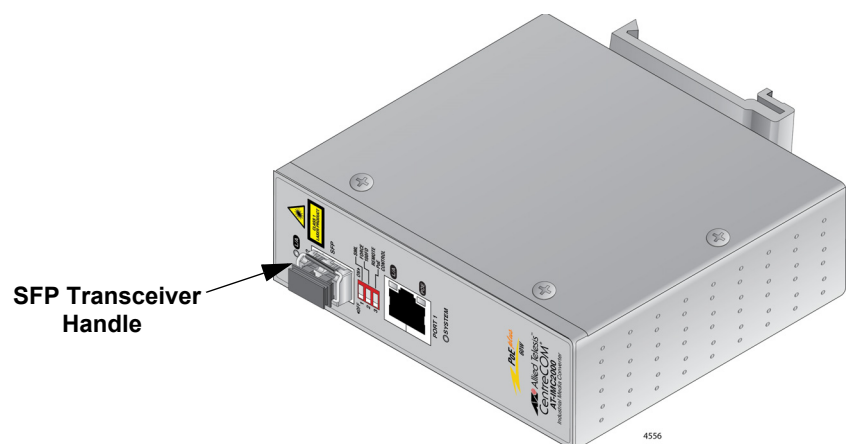

Figure 21. Positioning the SFP Handle in the Upright Position
- Verify that the handle on the transceiver is in the upright position, as shown in Figure 21. This secures the transceiver and prevents it from being dislodged from the slot.